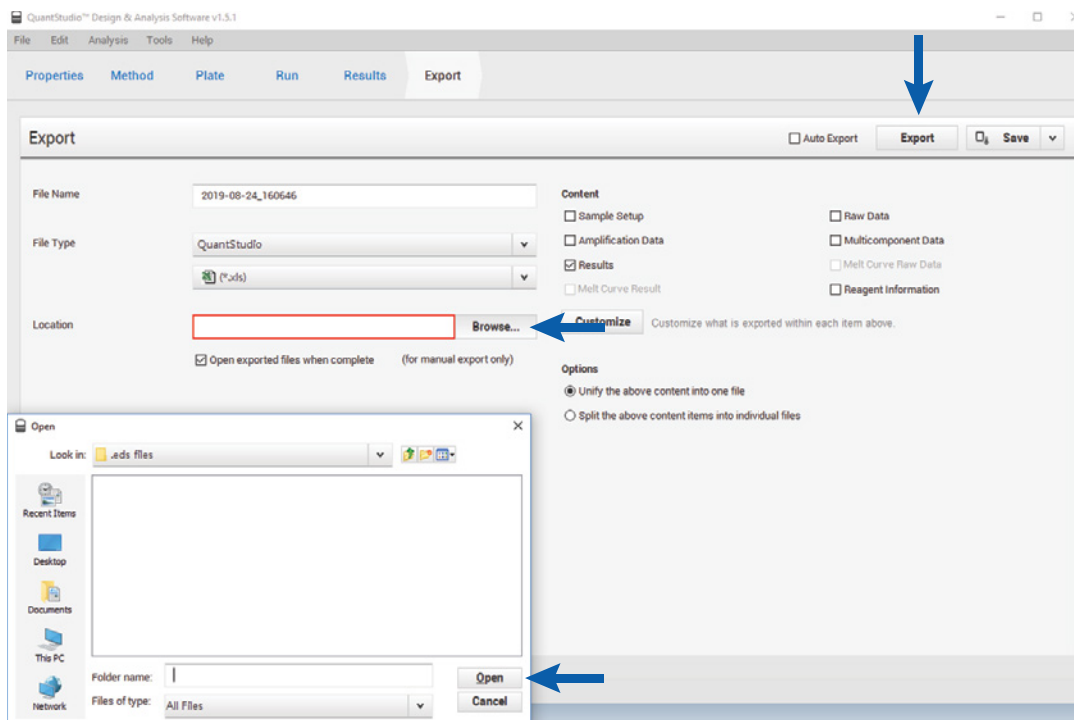

Figure 55. Exporting Results from the QuantStudio™ Design and Analysis Software.
2. Specify an appropriate export file name. Select **Browse** and choose a file location. Select **Export** (Figure 55).